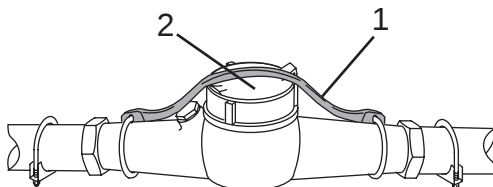

Figure 97
1. Slide the retaining strap (Figure 97, Item 1) to one side and open the cover (Figure 97, Item 2).
4. Close the cover (Figure 97, Item 2) and secure using the retaining strap (Figure 97, Item 1).